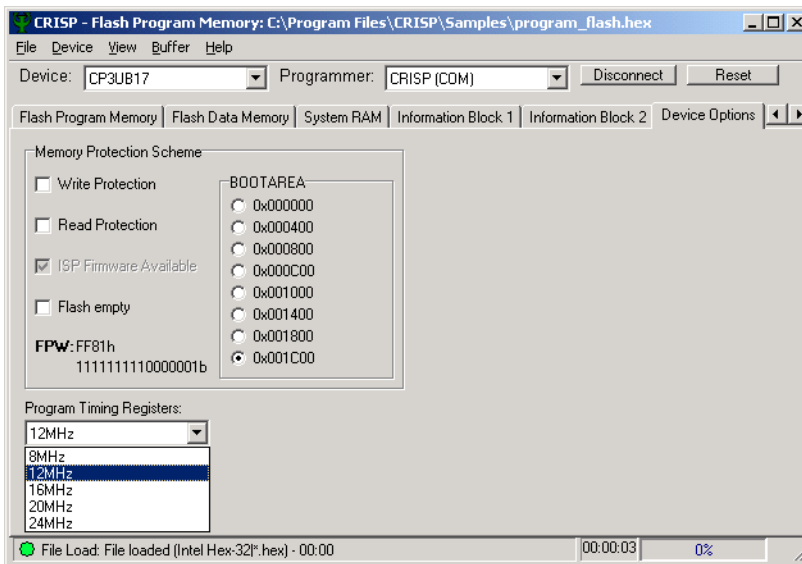

Figure 5-6. Selecting the Clock Frequency
1. **Select the Clock Frequency.** Click on the Device Options tab in the main CRISP window to bring up the view shown in Figure 5-6. Use the Program Timing Registers pull-down menu in the lower left corner of the window to select the "12 MHz" timing setting.